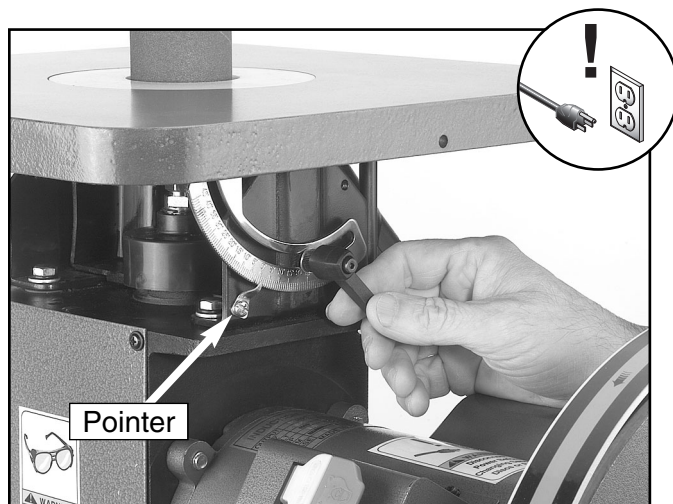

Figure 8. Setting the table scale at 90°.
2. Set the table at 90° as shown in **Figure 8**.